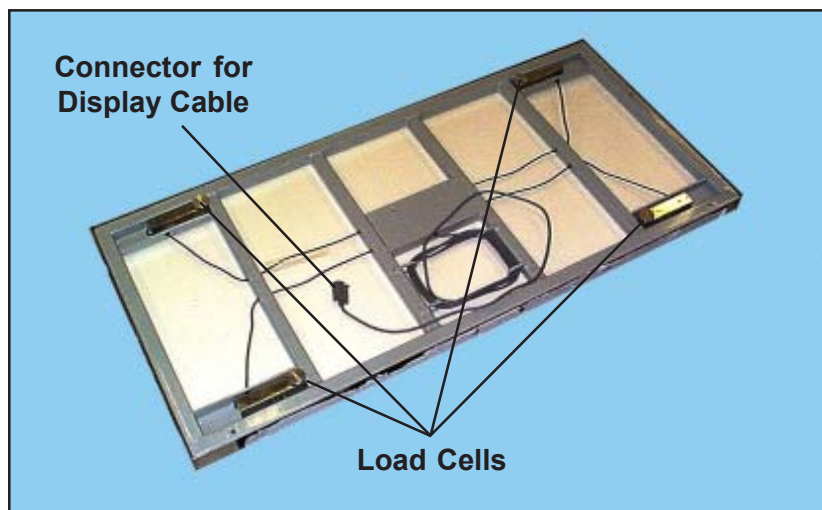

Figure 67. Underside of Electronic Scale
3. With a flat-blade screwdriver, remove the four mounting screws and washers under the scale (Figure 67).
1. Place the scale on the unit so that the load cells under the scale line up with the mounting holes on the unit frame (Figures 67, 68, and 69). Make sure that all four load cells rest on the frame arms and that the scale is stable and does not rock. **Note:** The display cable should exit to the rear for convenient routing to the display console.